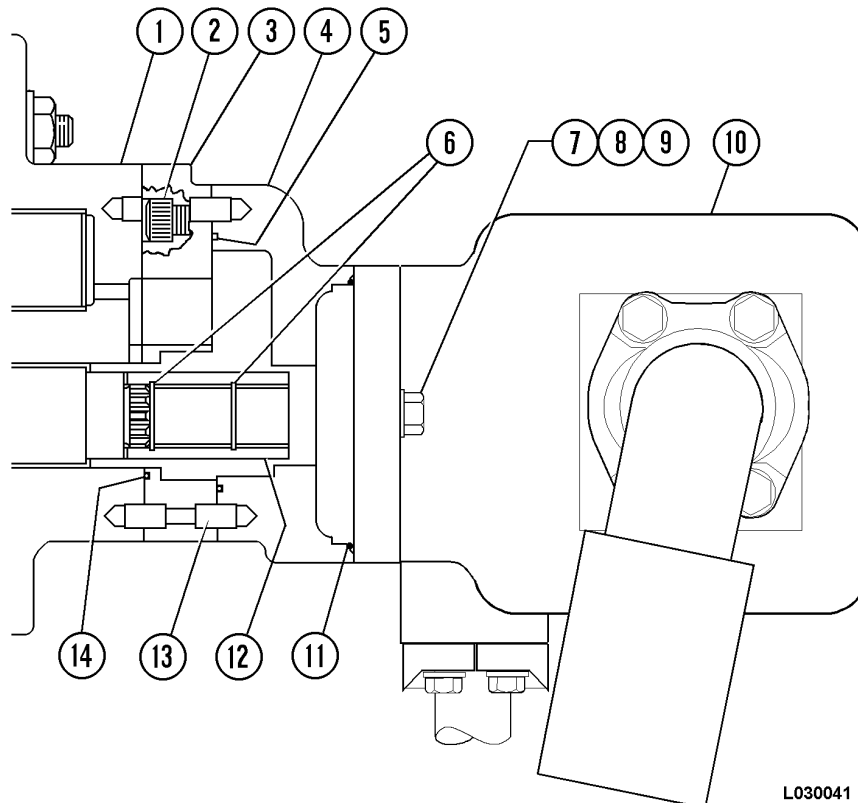

FIGURE 3-2. HOIST & STEERING PUMP
8. Remove the four capscrews (3) securing the hoist pump to the front support bracket. Remove the six capscrews holding the support bracket to the "T" bracket and remove support bracket.
10. Remove the two capscrews (7, Figure 3-2). Slide hoist Pump forward to disengage the splines of drive coupling (12) from the steering pump.
1. Install O-ring (11, Figure 3-2) to steering pump (10). Install coupler (12) with snap ring (6) to hoist pump (1).